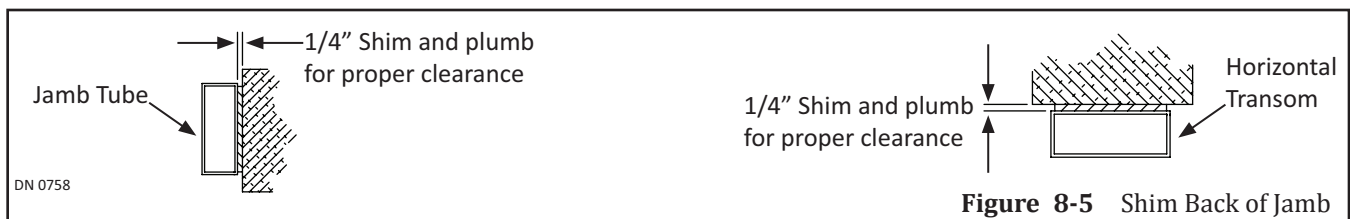

Figure 8-5 Shim Back of Jamb
1. Lift to position the assembled Frame into the rough opening. Insert all incoming wiring through the 1-1/4 inch hole located on side of Header. Please see Figure 8-5.